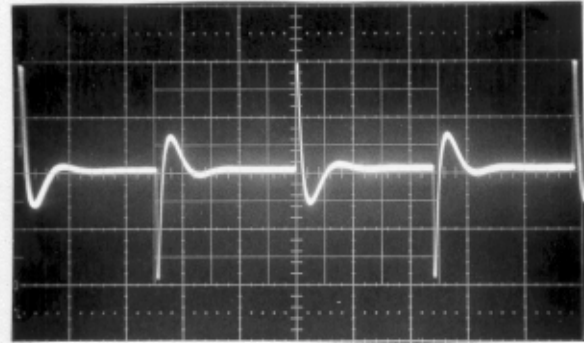

Fig. 15. 100W Amp - Freq at 10.
- 11) Set Freq. Knob 10, compare 100W output to Fig. 15.